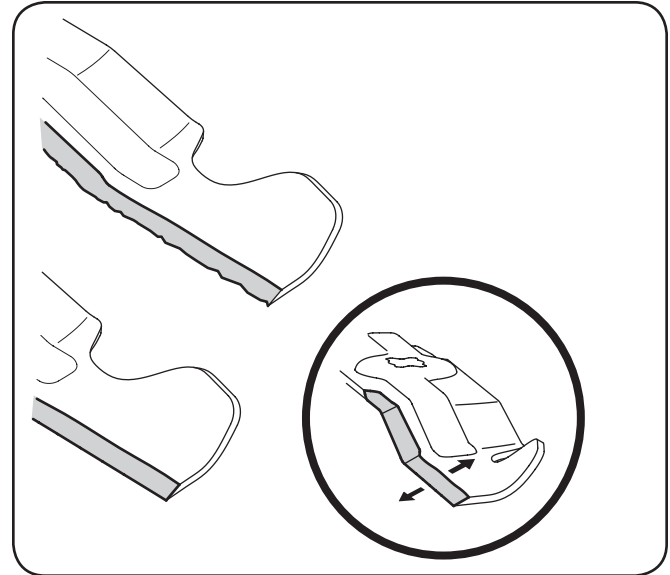

Figure 7-4
4. To properly sharpen the cutting blades, remove equal amounts of metal from both ends of the blades along the cutting edges, parallel to the trailing edge, at a 25°- 30° angle. Always grind each cutting blade edge equally to maintain proper blade balance. See Fig. 7-4.